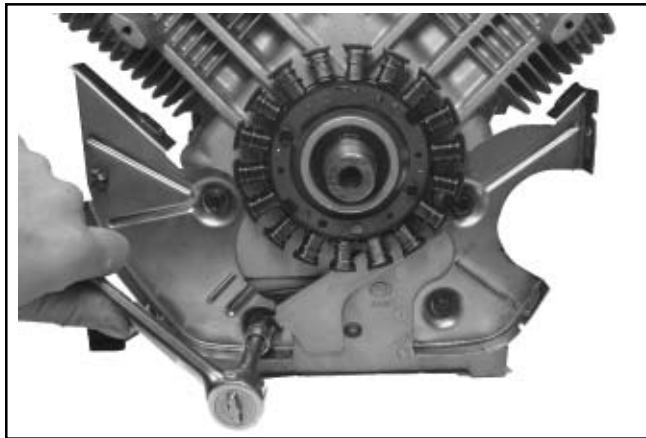

Figure 9-59. Removing Backing Plates and Stator Wire Bracket.
1. Remove the four hex. flange screws securing the backing plates and stator wire bracket (if equipped). See Figure 9-59. Remove the backing plates and stator wire bracket.